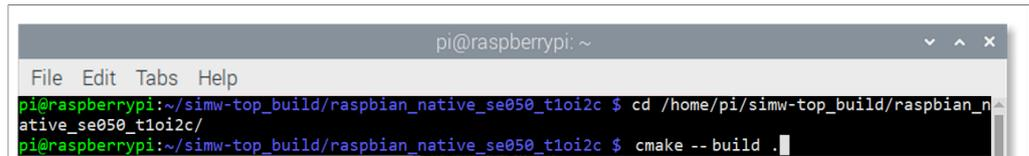

Figure 20. Build project examples
- Build the project examples, as shown in Figure 20: